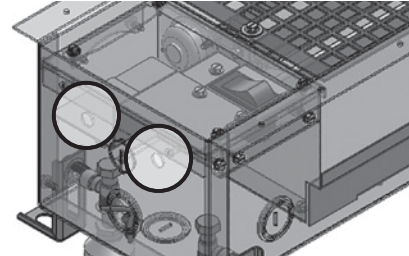

Figure 11D: Modular Connection Points
- After wiring, use tape to cover and seal any access holes in junction box. See Figure 11D.
- Remove grille assembly, tighten slide legs, and wire clamps. See Figure 11D.